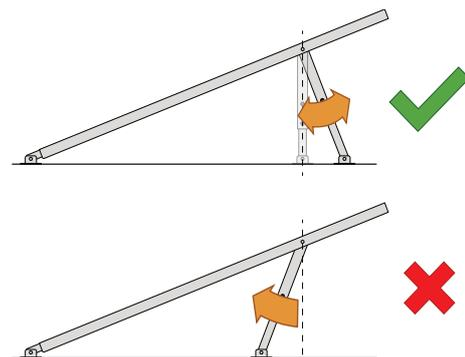

Fig 1
- Adjust the side stand section until the front foot sits over suitable fixing substrate (i.e. purlin) and repeat process outlined in step 1. (Ensure that back leg section maintains a structural angle as shown in fig 1)